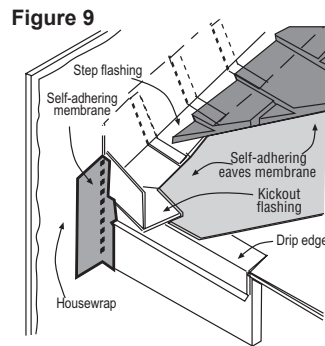

Figure 9
- Install kickout flashing at roof-wall junctions. (fig 9.)
Figure 9, Kickout Flashing⁺ To prevent water from dumping behind the siding and the end of the roof intersection, install a "kickout" of sufficient length and angle to direct the water running down the roof away from the siding.
* The illustration (figure 9) was reprinted with permission of THE JOURNAL OF LIGHT CONSTRUCTION. For subscription information, call (800) 375-5981 or visit www.jlconline.com.